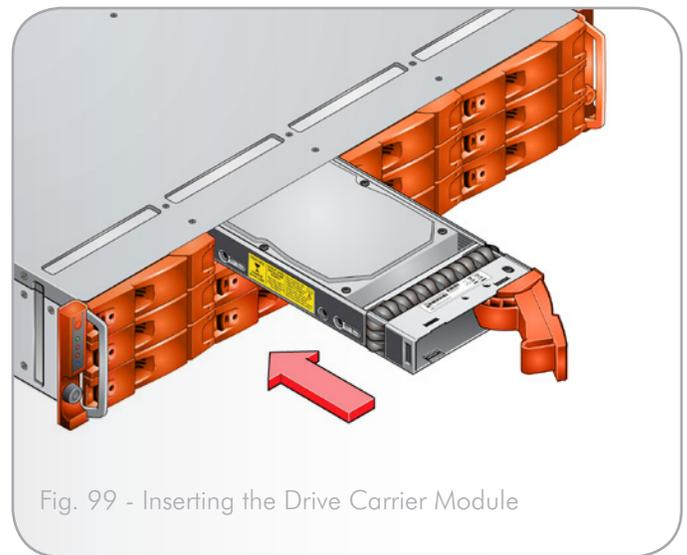

Fig. 99 - Inserting the Drive Carrier Module
3. Slide the drive carrier, gently, all the way into the enclosure until it is stopped by the camming lever on the right of the carrier (*Fig. 99*).